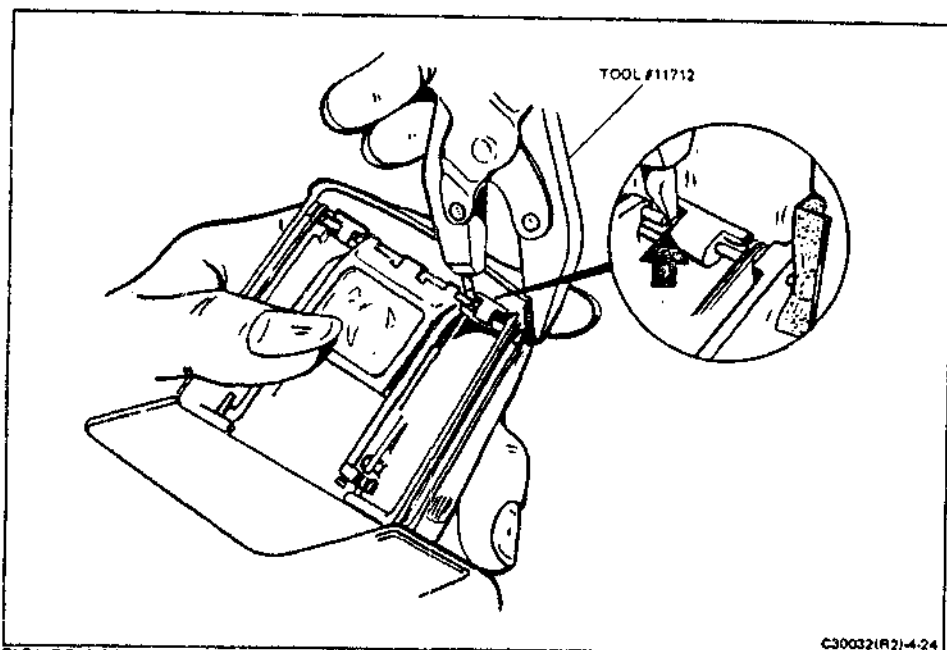

FIGURE 4-24 REMOVING EYELENS PIVOT PIN
- Using Special Tool #11712 (Figure 4-24) press out either end of the three-piece pivot pin until the pin emerges far enough to allow the insertion of a jeweler's screwdriver underneath the head of the protruding pin. Pry the pin all the way out with the screwdriver.
- Using Special Tool #11712 (Figure 4-24) press out either end of the three-piece pivot pin until the pin emerges far enough to permit inserting a jeweler's screwdriver underneath the head of the protruding pin. Pry out the pin with the screwdriver.